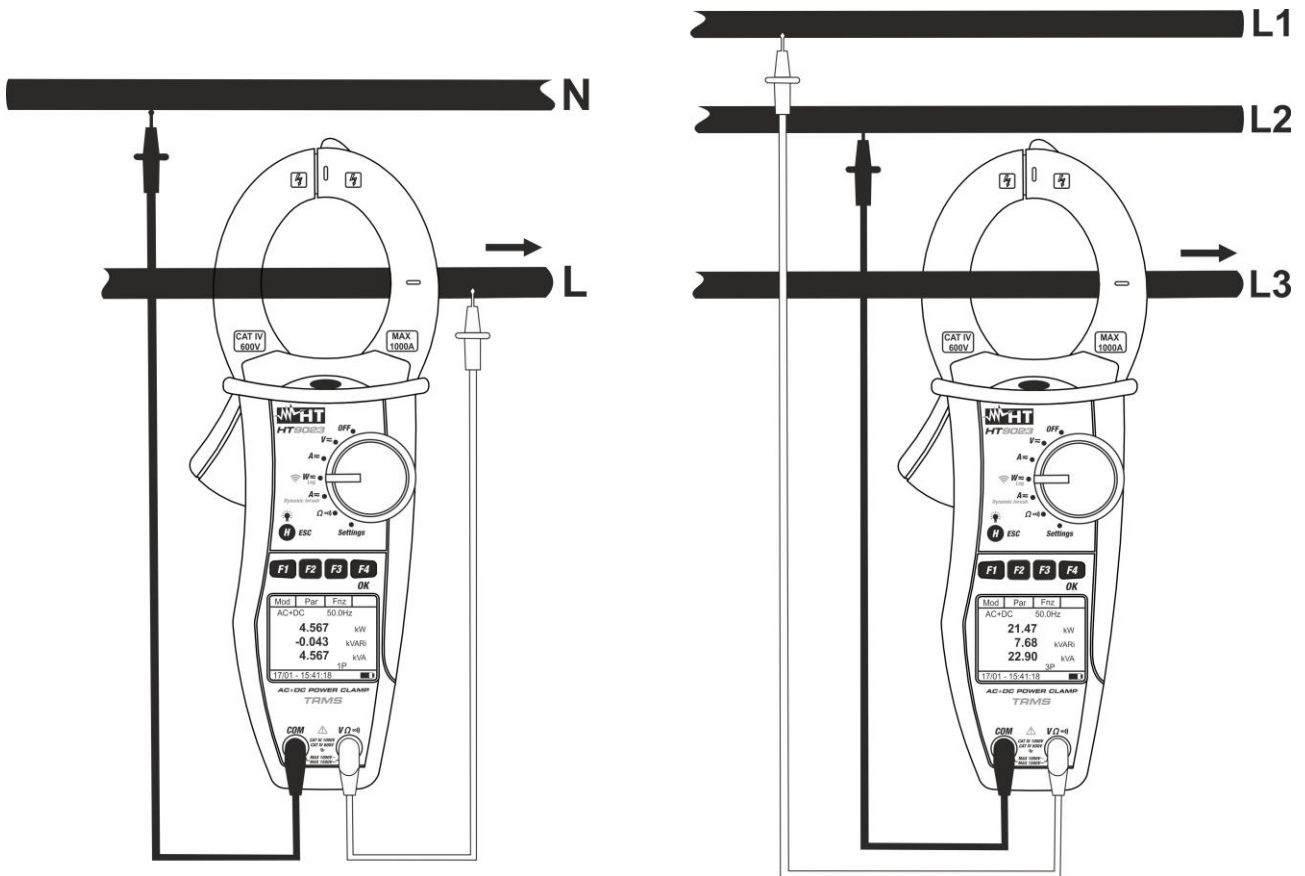

Fig. 13: AC/AC+DC power measure on Single phase and balanced Three phase systems
6. Connect red cable to input lead **VΩ)))** and black cable to input lead **COM** then perform the connection as indicated in Fig. 13 depending on the type of system under test. Put the phase cable into the clamp jaws respecting the direction of current indicated by the arrow (see Fig. 13). Connect the cable to the middle of the clamp jaws, in order to get accurate measurements. Use the marks as a reference (see Fig. 2)